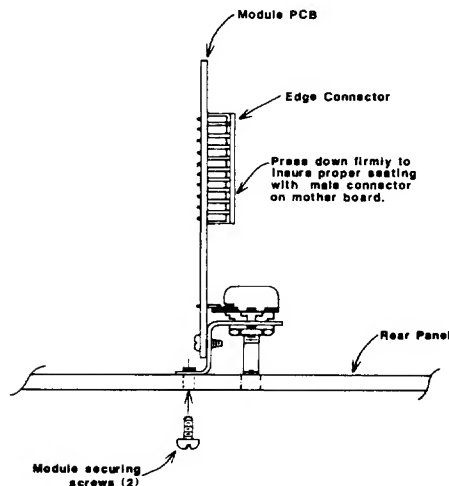

Figure 4. Module Installation
2. Plug the input or output module into one of the six channel positions with the controls facing the rear as shown in Figure 4. Secure the module with the two screws provided.